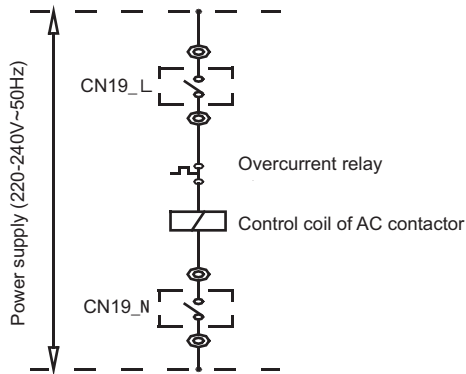

Fig. 5-2
Step 9. Connection of control wires of auxiliary electric heaters: the control wires of AC contactor of the auxiliary electric heater must pass the connection terminals CN19_L and CN19_N of the main unit, as shown in Fig. 5-2.